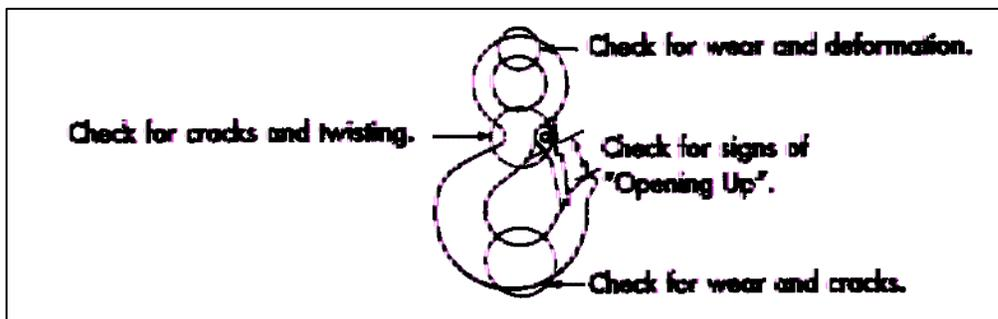

Figure 5.28-2 - Hook Inspection Areas
- b. On snap hooks, look for wear in association with Fig. 5.28-2 in the jaw of the hook, cracks, severe corrosion and twisting of the shank. Be especially careful to measure the bill opening. If there is evidence of opening or distortion, destroy the hook.